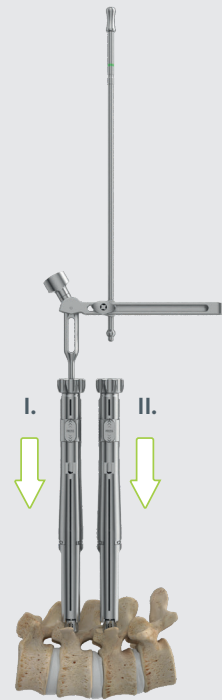

Fig. 8 Insertion of the VERTICALE ML Rod Gauge into the VERTICALE ML Locking and Reduction Towers and the VERTICALE ML LRT Insert, adjustable.
- II.** The horizontally variable rod of the rod gauge is inserted fully into the inferior VERTICALE ML Locking and Reduction Tower and into the screw head. The adjustable unit is now fixed into position using the rotary knob (Fig. 8). The horizontally variable measuring rod must now be pulled back fully. If this step is not completed, the rod gauge becomes incorrectly adjusted on removal. The rod gauge can be removed from the locking and reduction towers, the movable measuring rod pushed downwards until the green marking is reached, and the appropriate rod read on the VERTICALE MIS Rod Length Verifier.